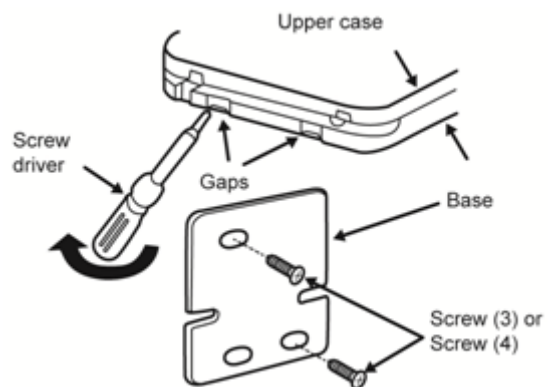

Figure 22: Opening the controller case
1. Remove the remote controller's base by inserting a flat-tipped screw driver 2 to 3 mm into one of the gaps at the bottom of the case, and twist to open as shown in Figure 22.